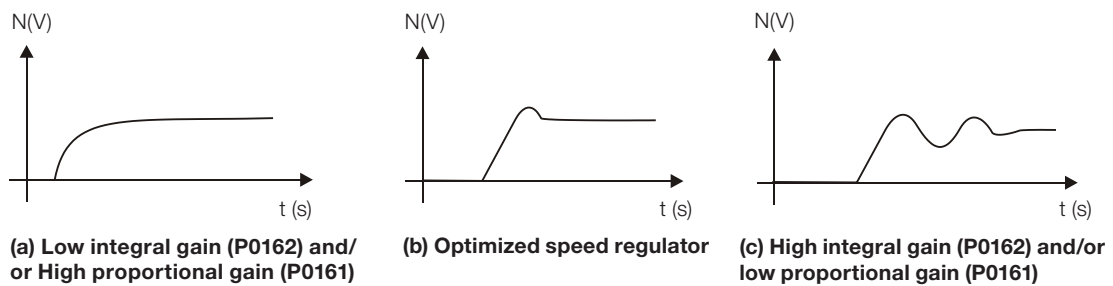

Figure 12.3: (a) to (c) Speed regulators response types
6. Verify among the options of the Figure 12.3 on page 12-13, which waveform best represents the observed signal.
7. Adjust P0161 and P0162 according to the response type presented in the Figure 12.3 on page 12-13.